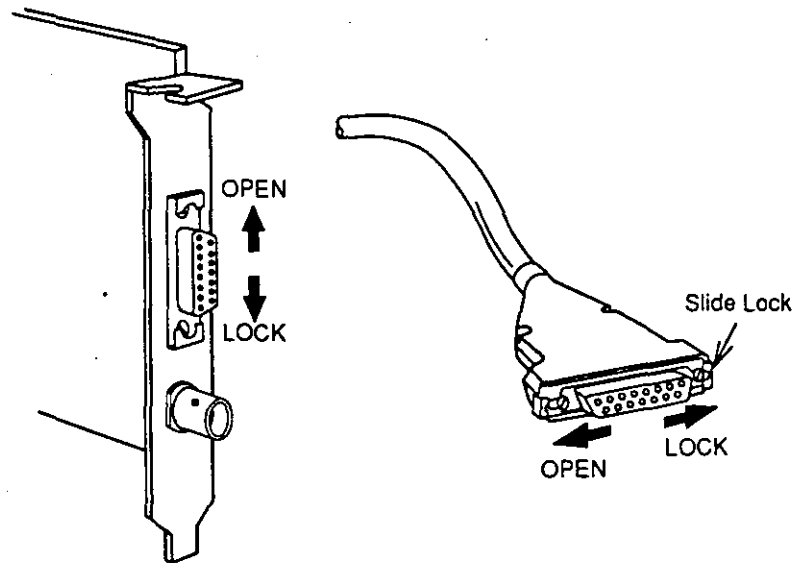

Figure 4.2.
4. Refer to Figure 4.2 below to use the slide lock on the female DIX connector and attach the connector on the transceiver cable to the transceiver. Slide the lock to "open," attach it to the transceiver, and then slide the lock back to "lock." The slide lock prevents accidental disconnection.